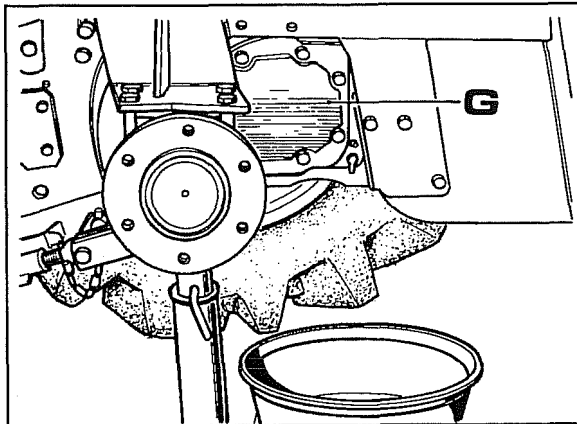

Fig. 20
- 1 Jack up the tractor, remove the wheel and drain the oil from the transmission. Remove cover **G** Fig.20.